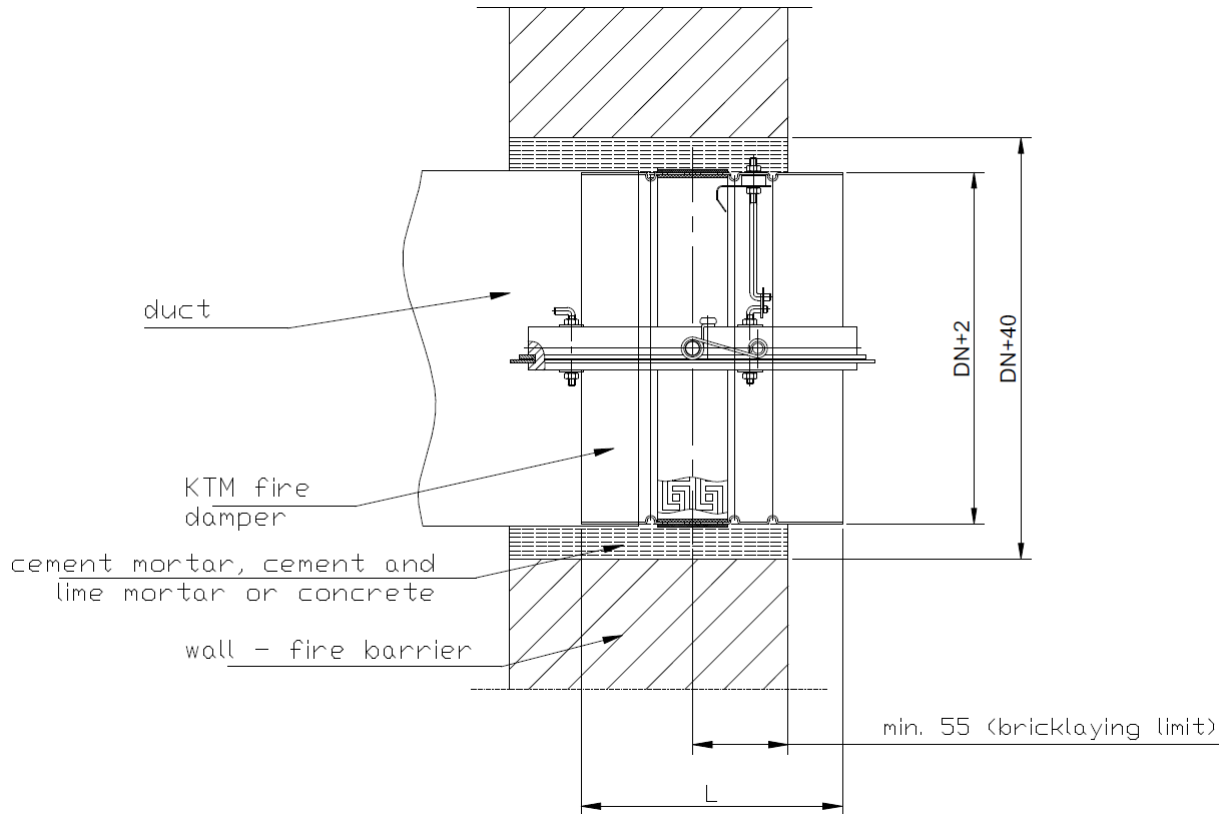

Figure 5. Diagram of the KTM fire damper inbuilt in a barrier thicker than the length of the damper body
The KTM and KTM-E(ME) fire dampers may be installed also in horizontal barriers, thicker than the length of the damper body. In such case, ventilation duct would be partially inbuilt in the fire barrier KTM built-in inside the barrier (Figure 5).